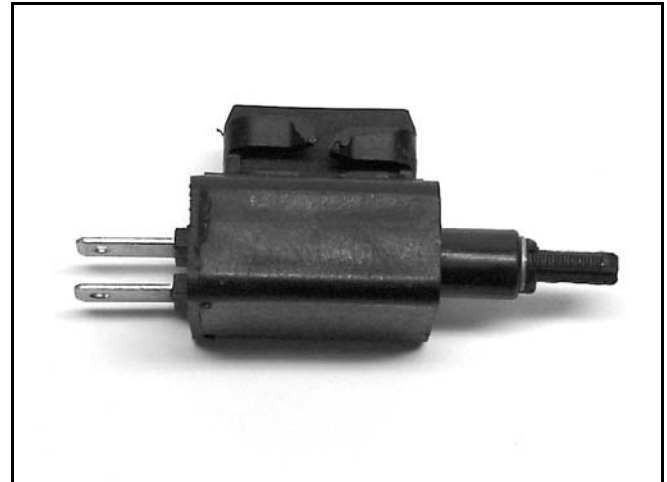

**Figure 37** Neutral Switch
2. Using a multimeter, follow the procedure listed below (Figure 37):